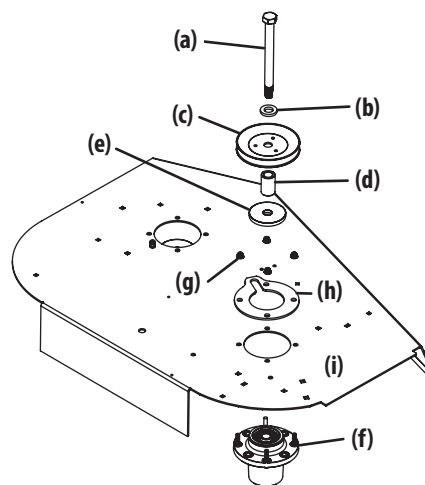

Figure 49
4. Remove the hex bolt (a), washer (b), pulley (c) spacer (d) and fender washer (e) from the spindle assembly (f) (Figure 49).
5. Remove the four flange lock nuts (g) and support plate (h) securing the spindle assembly (f) to the deck (i) (Figure 49).
7. Reverse STEPS 4-5 to install the spindle assembly. When installing the new spindle assembly be sure to install the hardware exactly as shown in Figure 49 on page 30. Torque the flange lock nuts to 21-32 ft-lbs (28-43 N-m).